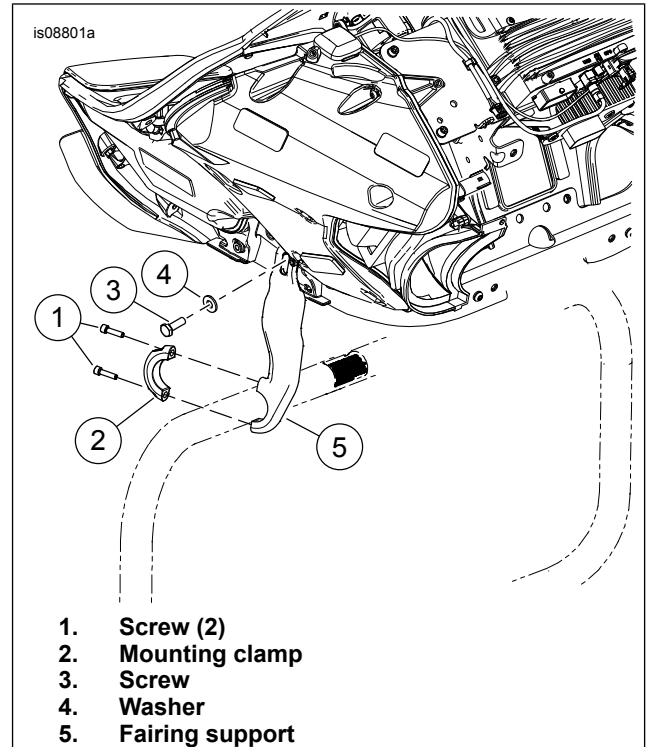

Figure 1. Remove Engine Guard
2. See Figure 1. Remove the two screws (1) and mounting clamp (2) from the fairing support (5).
3. Remove and retain the screw (3) and washer (4) that attach the stock fairing support to the motorcycle. Remove the stock fairing support. Repeat on opposite side.